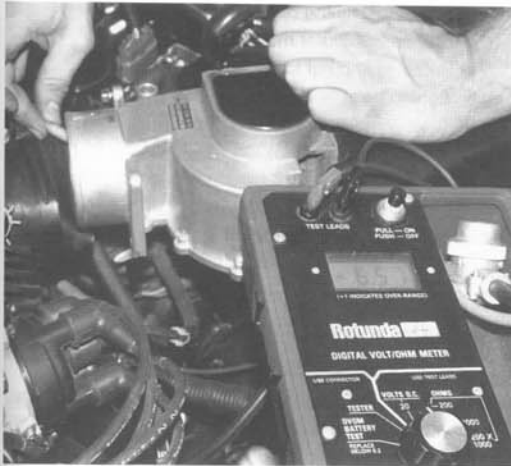

Fig. 3-4. Place a pencil through the VAF to deflect the vane. Measure the voltage output. Shown is 2.2L Turbo.
- Place a unsharpened pencil as shown in Fig. 3-4